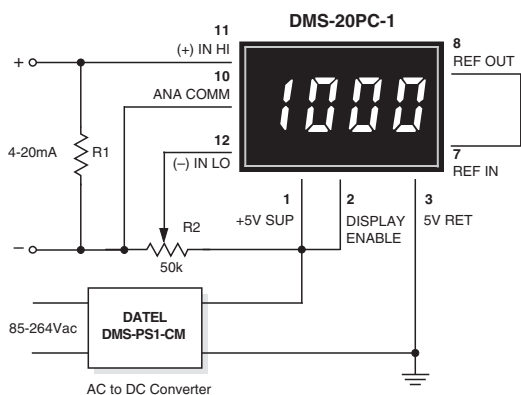

Figure 7. 4-to-20mA Current Loop Operation
**5. Process Control (4-to-20mA) Measurements:** In many common process-control applications, a 4-to-20mA current loop is used to transmit information. Because DMS-20PC meters have such high input impedance, a simple shunt resistor across the meter's input can be used to convert the loop current to a voltage. See Figure 7. The value of the shunt resistor is a function of the scaling requirements of the particular application and can be calculated using the following equation:
To calibrate the circuit of Figure 7, perform the following: